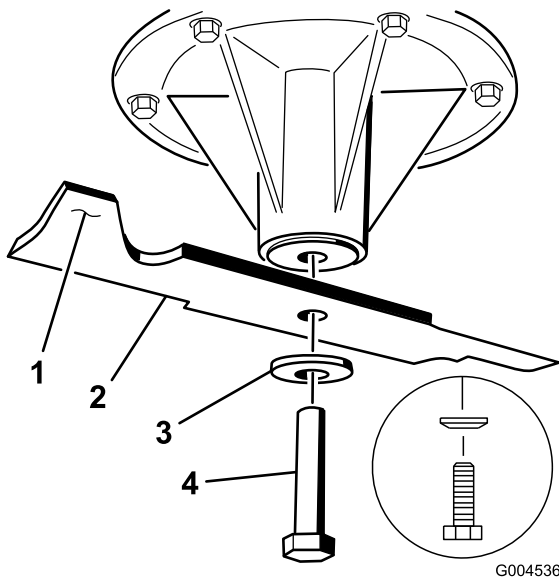

Figure 8
2. Install the new blades to the spindles with washers and blade bolts that were previously removed (Figure 7 or Figure 8).
4. For GrandStand mowers and floating deck mowers, tighten the blade bolt to 85-110 ft-lb (115-150 N-m) (Figure 8).